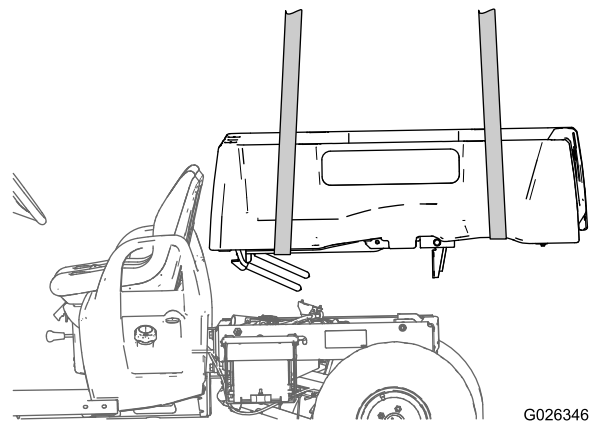

Figure 5
10. Lift the cargo box up and off of the machine (Figure 5).
12. Lift the cargo box up and off of the machine (Figure 5).